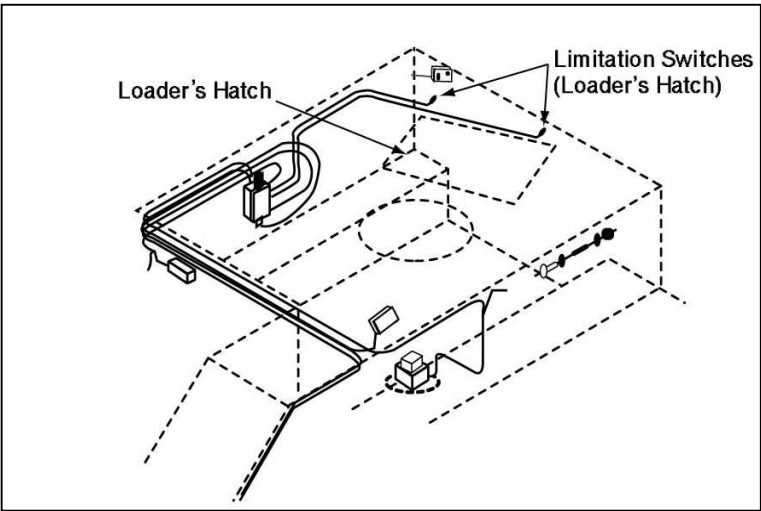

Figure 4-2-11: Limitation Switches (Loader's Hatch)
32. **Limitation Switches (Loader's Hatch).** The two loader's hatch limitation switches (see Figure 4-2-11) are installed on either side at the rear of the loader's hatch frame and are activated by two levers attached to the hatch cover. The limitation switches are adjusted to prevent launching of the missiles when one or both switches are open, which occurs when the loader's hatch is raised more than 10 mm.